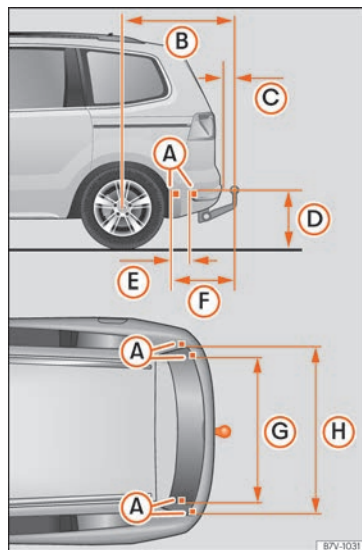

Fig. 280 Limits and attachment points for retrofitting a towing bracket.
The distance between the centre of the ball head and the road »» Fig. 280 (D) must never be less than indicated. This also applies when the vehicle is fully loaded, including the technically permissible maximum vertical load on the coupling device.
Separation distances »» Fig. 280: